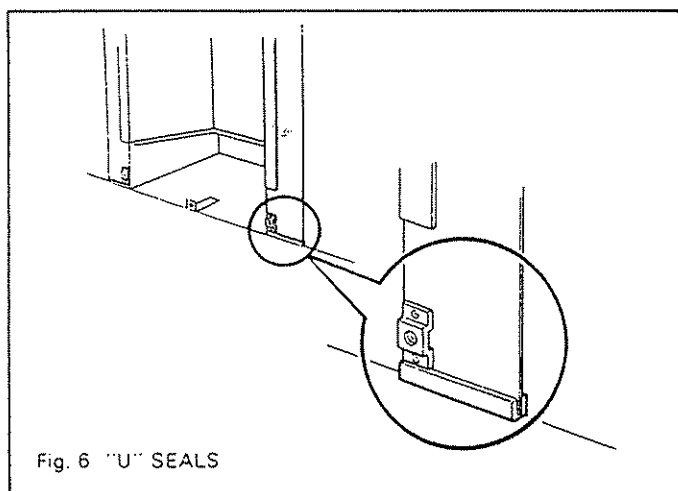

Fig. 6 "U" SEALS
- 6.2 Fit the two small "U" section seals to the bottom edges of the convection box side flanges (see fig. 6).